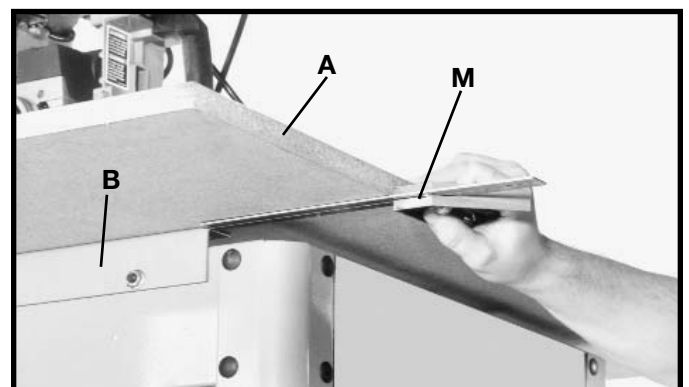

Fig. 20
5. Using a combination square (M) Fig 20, check the left and right front edge of table board (A) to make certain both sides are the same distance from the edge of each table support (B) Fig. 20.